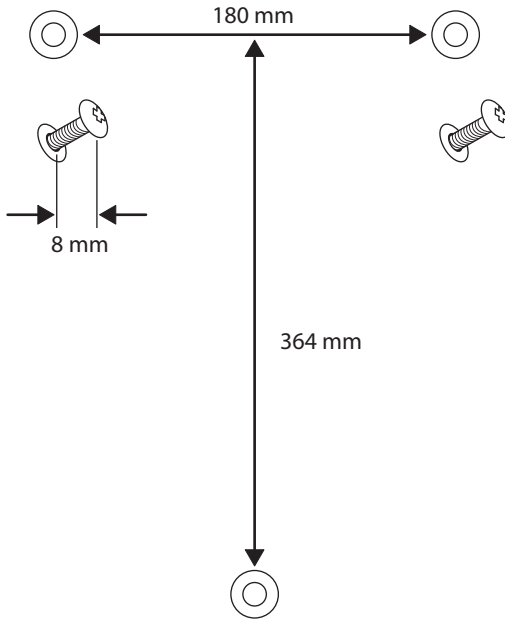

fig 3
- Drill 3 holes of 6mm diameter in the wall (see fig 3) and insert the wall plugs supplied.